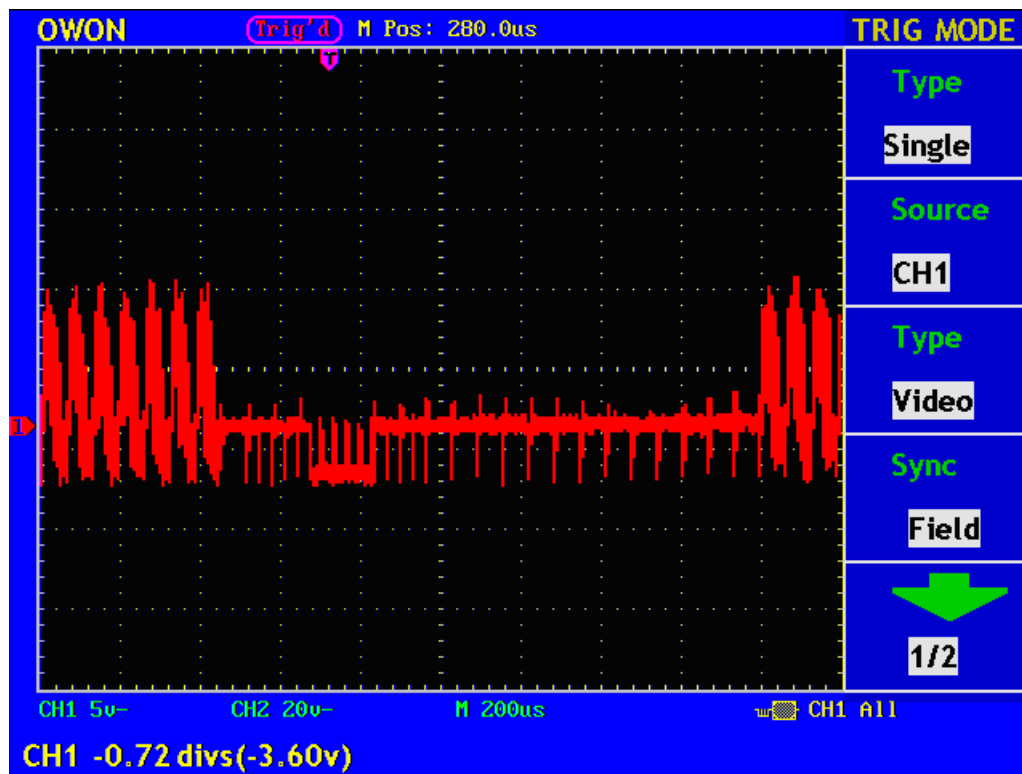

Fig.72 Wave Form Obtained from Video Field Trigger
6. Adjust the **VOLTS/DIV**, **VERTICAL POSITION** and **SEC/DIV** knobs to obtain a proper wave form display (see Fig.72).